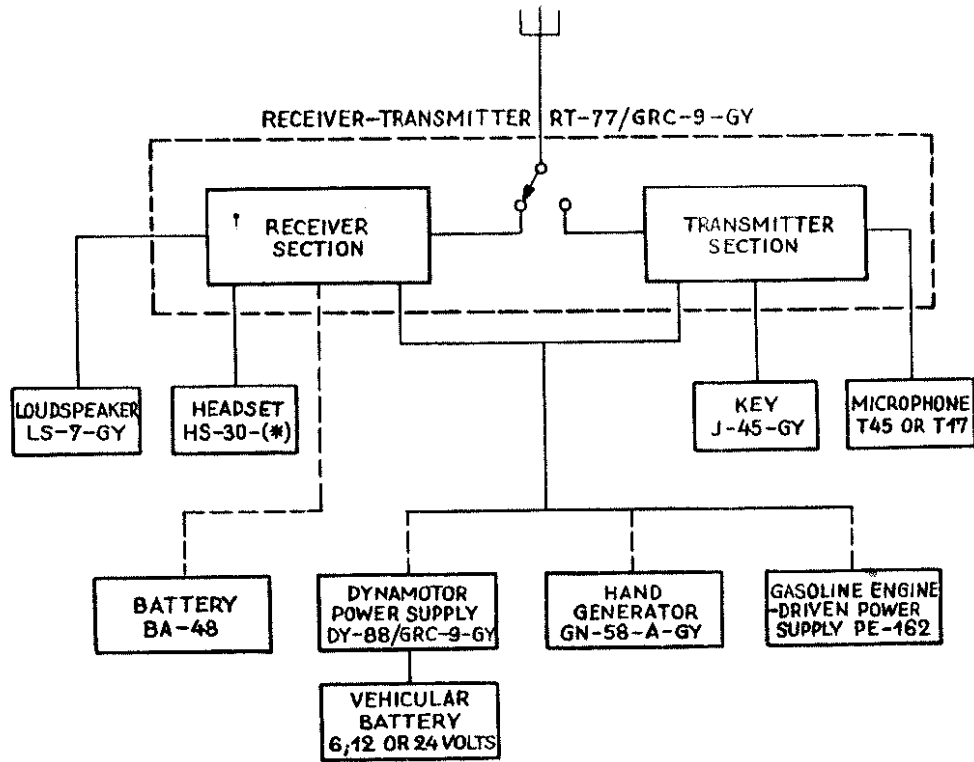

Figure 3. Radio set AN/GRC-9-GY, simplified block diagram.
b. A simplified block diagram is shown in figure 3. Both the transmitter and the receiver use the same antenna. A relay, located in the transmitter cabinet and actuated by the transmitter key, switches the antenna to the transmitter unit when the key is depressed. When the key is not depressed, the antenna remains connected to the receiver, whereas the transmitter is made inoperative by other contacts of the same relay.